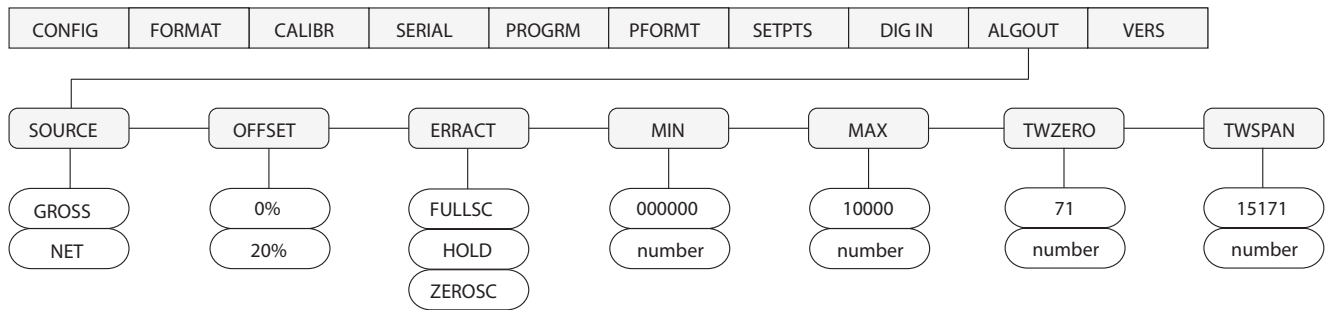

Figure 10-5. Analog Output Menu
- Enter setup mode and go to the ALGOUT menu (see Figure 10-5):